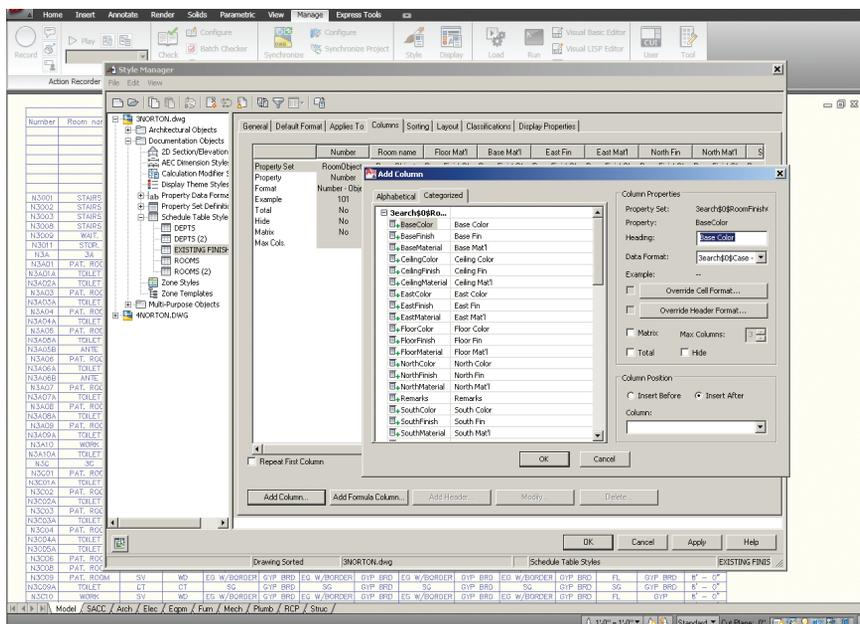

Figure 1: Schedule Table Style – Add Column
4. **Columns** allows you to add columns to represent properties that are reported in the schedule table style. You can also add column headings, edit column data, and edit column placement in your style (see Figure 1).